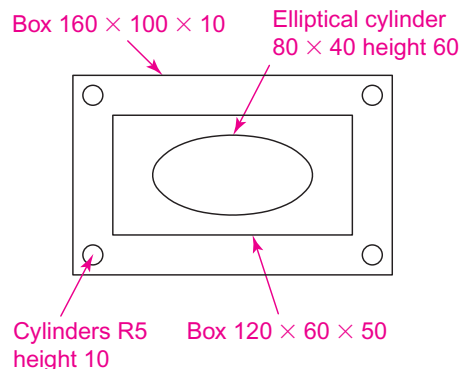
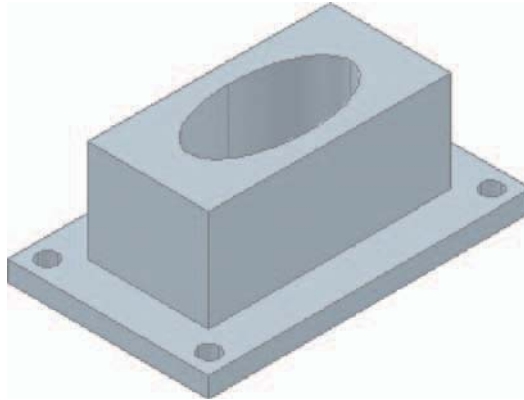

Fig. 12.32 Example – **Chamfer and Fillet** – sizes for the model
Fig. 12.33 Example – isometric view – **Chamfer and Fillet** – the model before using the tools
1. Working to the sizes given in Fig. 12.32 and using the **Box** and **Cylinder** tools, construct the 3D model in Fig. 12.33.